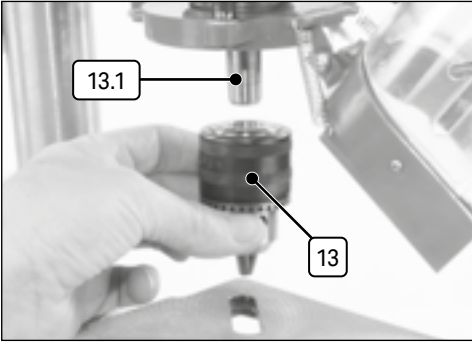

Fig. 5
6.5 Fitting the Chuck (Fig.5)
- Ensure both mating surfaces of the spindle (13.1) and chuck (13) are clean before pushing the chuck onto the taper. Use a sharp tap with a soft blow mallet to secure the chuck in place.